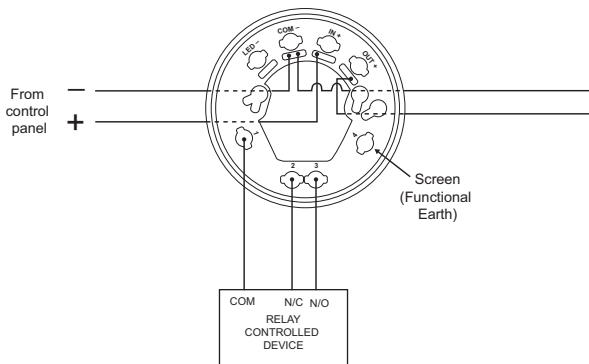

Fig 2 Relay base wiring connections
3. **Fig 2** shows the wiring terminals. The terminal marked '4' on the base is provided for connecting the screen or functional earth.